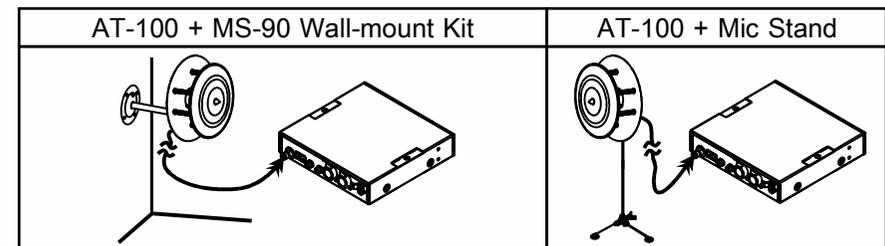

Fig. 4
3. External Antenna Installation, Fig. 4: